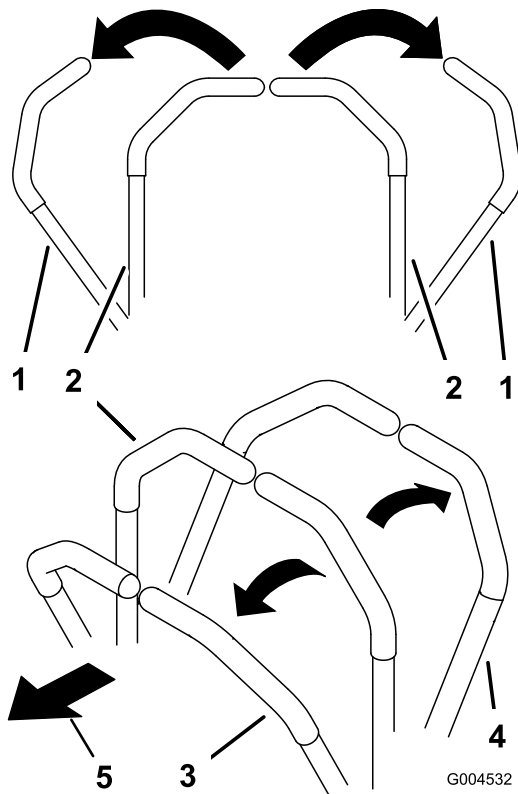

Figure 17
1. Move the motion-control levers (Figure 17) out to the NEUTRAL-LOCK position.
3. To go forward, slowly push the motion-control levers forward (Figure 17).
To go straight, apply equal pressure to both motion-control levers (Figure 17).
To turn, move the motion-control lever toward neutral in the direction you want to turn (Figure 17).
To turn, release pressure on the motion-control lever toward the direction you want to turn (Figure 17).
2. To go backward, slowly pull the motion-control levers rearward (Figure 17).